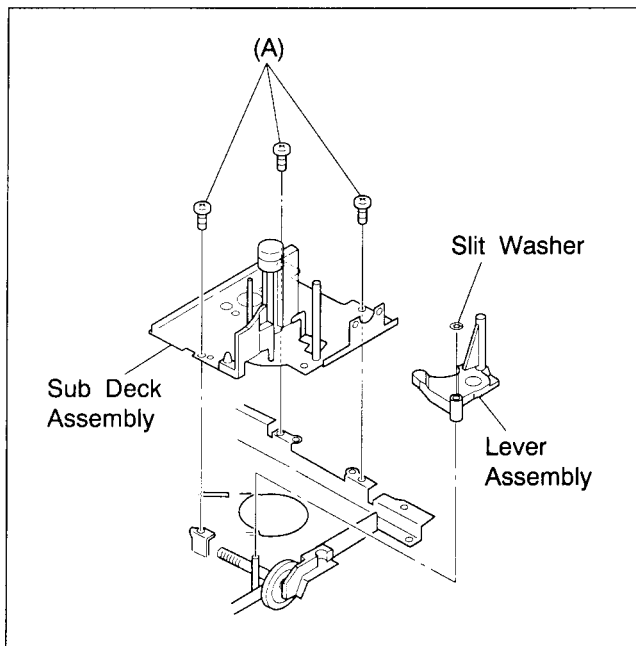

Fig.2-5-8
- (3) Take out 3 screws (A) and remove the sub deck assembly as indicated in Fig.2-5-8.